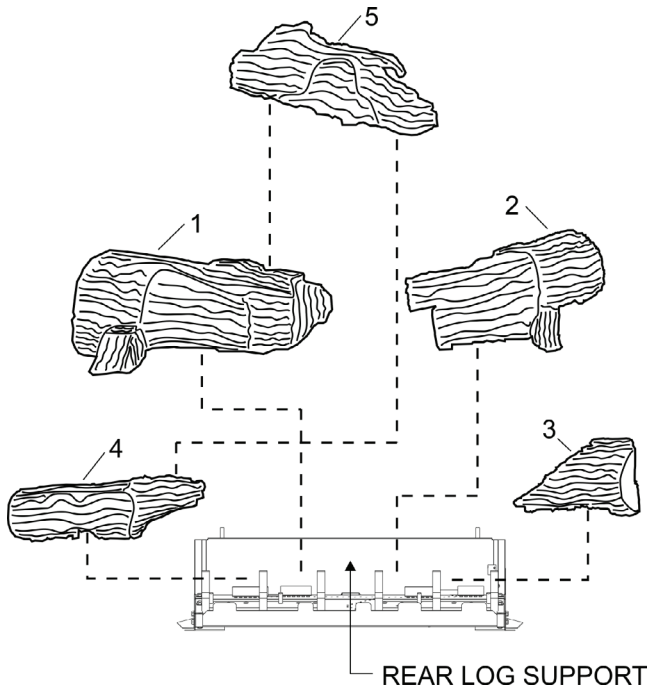

Figure 1
Refer to Figure 1 for the following warning.
**ATTENTION:** Do not use Figure 1 to order replacement logs. Refer to Log Identification LS18WRR on Page 6, or Log Identification LS24WRR on Page 7, or Log Identification LS30WRR on Page 8 to order logs for your appropriate model number.